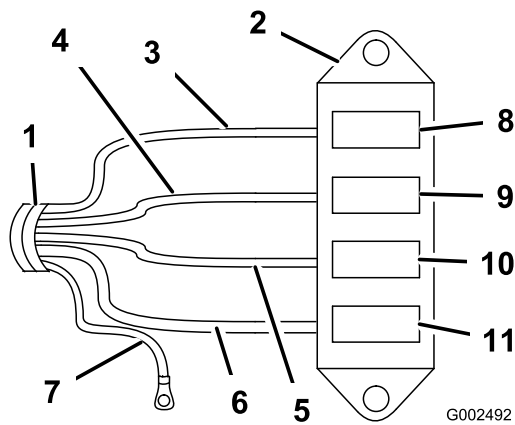

Figure 7
4. Wire the electrical harness to the fuse block by joining the wires in the harness to the corresponding wire connectors in the back of the fuse block (Figure 7).